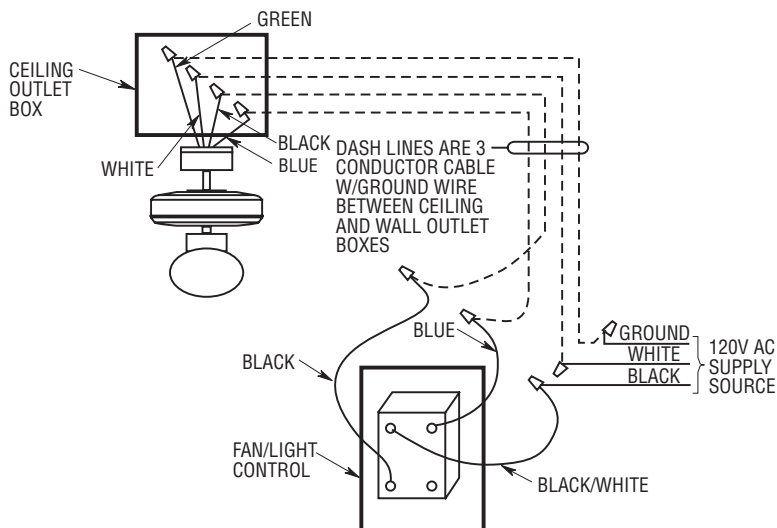

Figure 23
**NOTE:** Refer to Schematic “A” or “B”, depending upon the location of your 120V AC supply source (Figure 23).